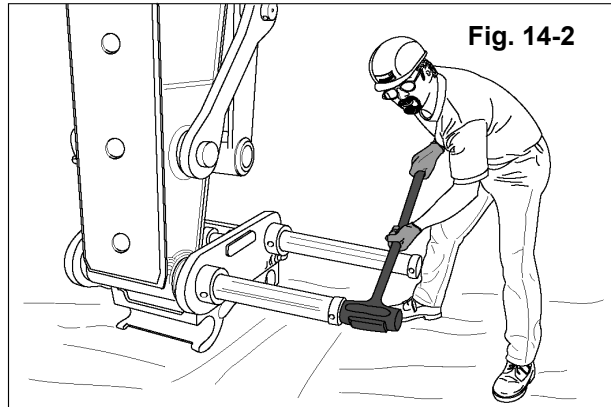

Fig. 14-2
4. You are now ready to connect the coupler to the excavator arm. With the throttle control in the low idle position, slowly operate the excavator controls to align the stick pin hole to the stick-side of the coupler. Insert the stick machine pin. **USE THE ORIGINAL STICK MACHINE PIN THAT CAME WITH THE MACHINE TO CONNECT THE COUPLER TO THE STICK.** Use a rubber mallet to drive the pin into place (see Fig. 14-2).